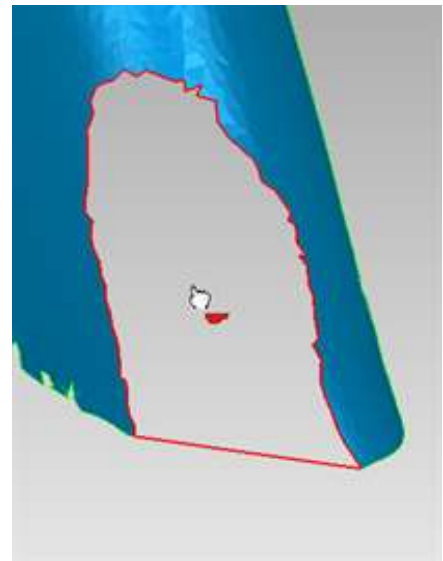

Figure 88
5. Hover the cursor in the **red** bounded area as shown in **Figure 88**.